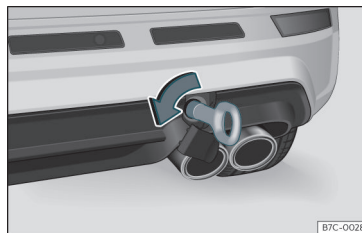

Fig. 42 On the right side of the rear bumper: towline anchorage in position.
- Screw the towing eye in the housing by turning it to the maximum **anticlockwise** >>> **Fig. 42** >>> ❶. Use a suitable object that can completely and securely tighten the towing eye in its housing.
❶ CAUTION